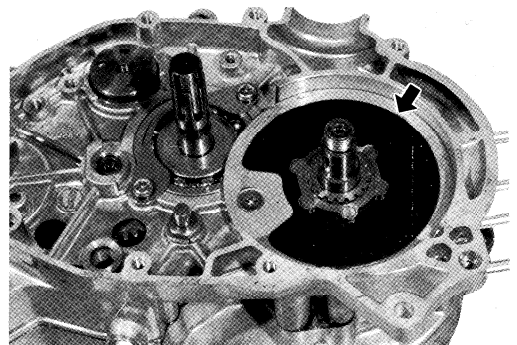

Fig. 5-4-25
25. Remove the valve plate and the valve guide by hand. (Fig. 5-4-25)